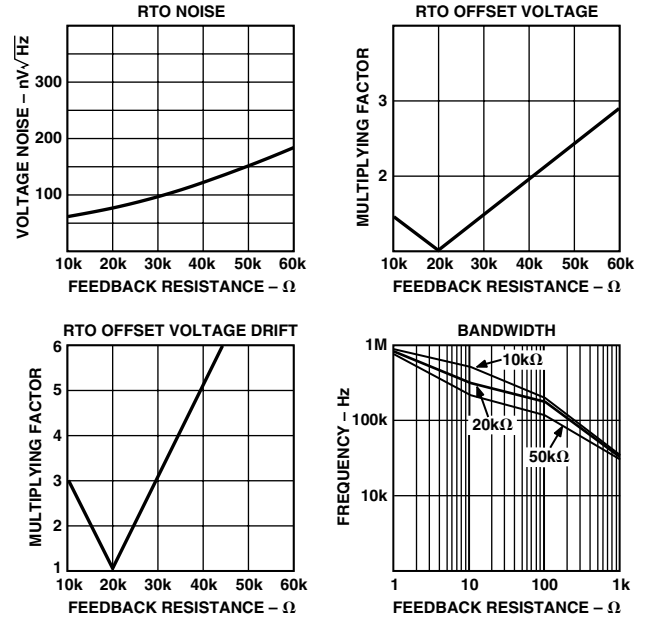

Figure 28. RTO Noise, Offset, Drift and Bandwidth vs. Feedback Resistance Normalized to 20 kΩ
As previously stated each RF provides feedback to the input stage and sets the unity gain transconductance. These feedback resistors are provided by the user. The AD625 is tested and specified with a value of 20 kΩ for RF. Since the magnitude of RTO errors increases with increasing feedback resistance, values much above 20 kΩ are not recommended (values below 10 kΩ for RF may lead to instability). Refer to the graph of RTO noise, offset, drift, and bandwidth (Figure 28) when selecting the feedback resistors. The gain resistor (RG) is determined by the formula RG = 2 RF / (G - 1).